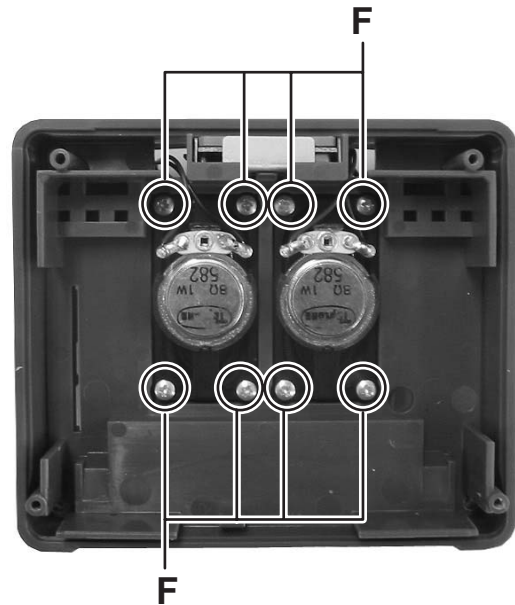

Fig.8
3.1.7 Removing the speakers (See Fig.8)